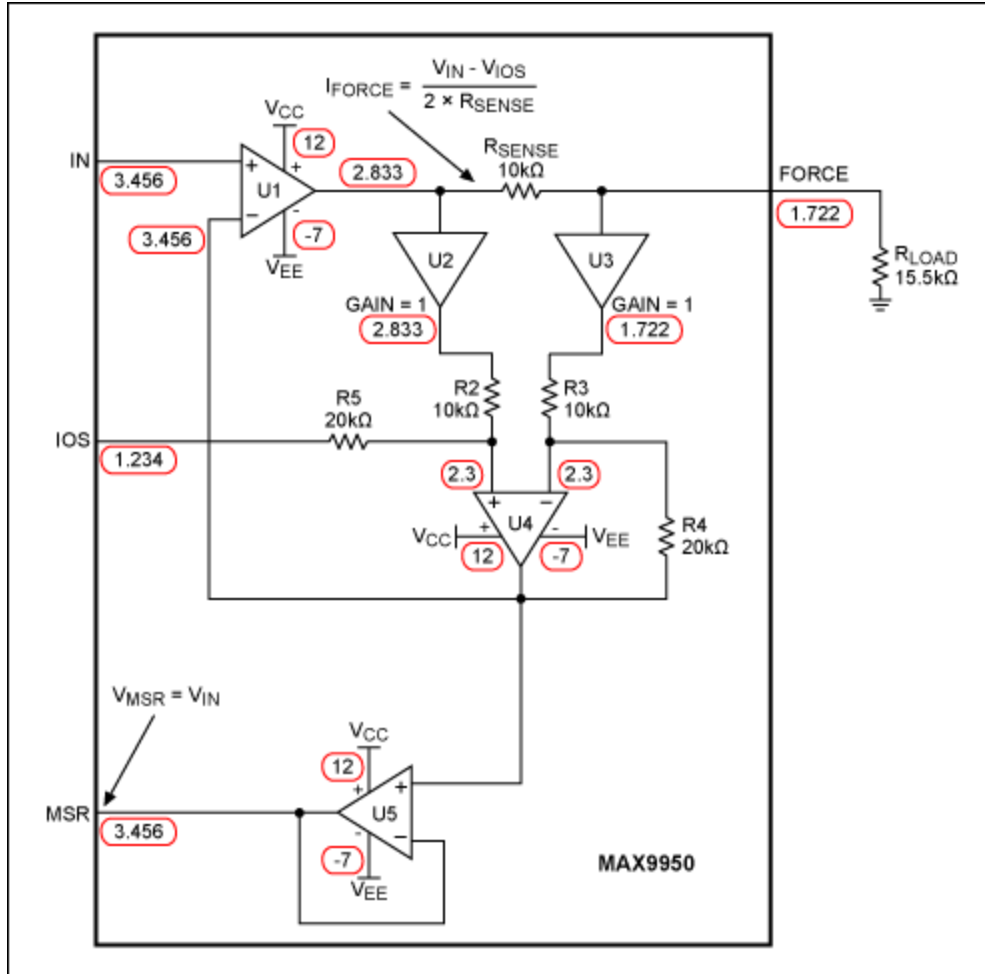
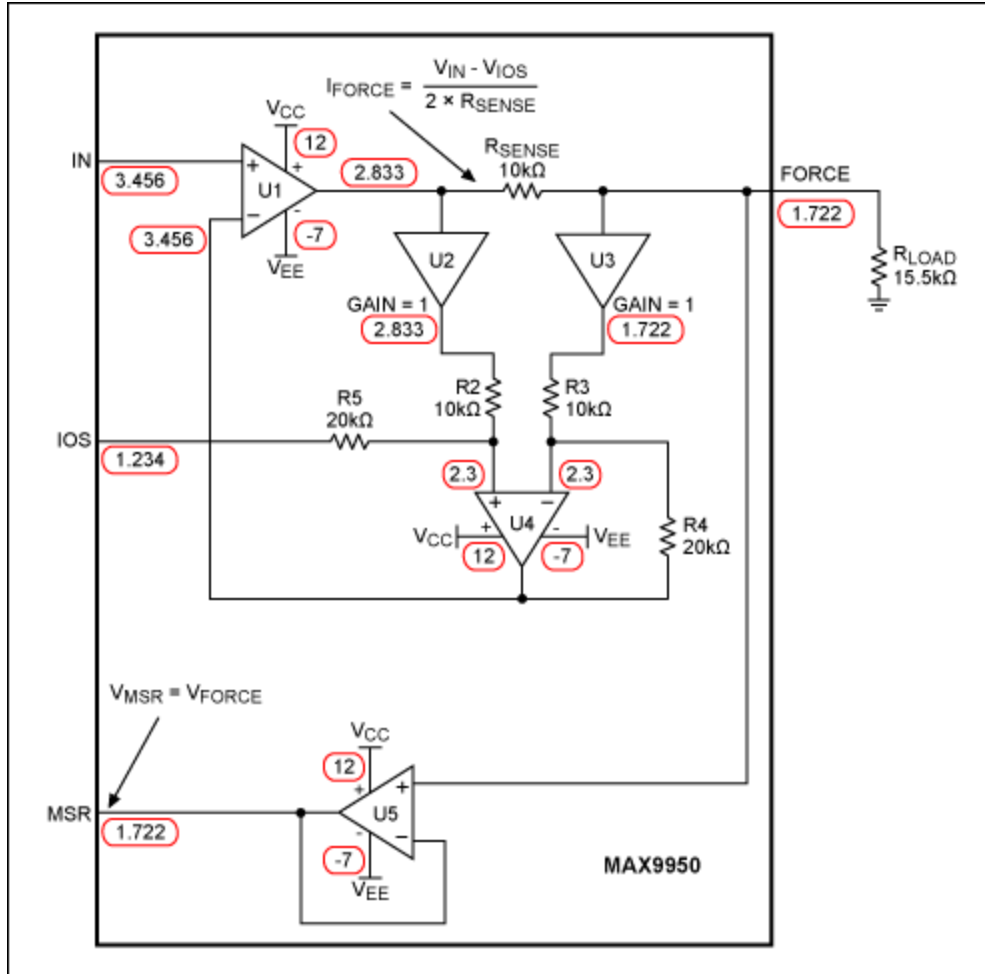

Figure 1. Equivalent block diagram of FIMI mode with sample setup.
Figure 2. Equivalent block diagram of FIMV mode with sample setup.
The following observations can be made from **Figure 1**.
2. Figure 1 shows an example of a setup where IN = 3.456V, IOS = 1.234V, and the load = 15.5kΩ. Using Equation 1 and R_SENSE = 10kΩ (±200μA range), we see that I_FORCE = 111.1μA.
The FIMV node is basically the same setup as the FIMI mode, but now the voltage at the output or the force pin is monitored with the MSR pin (Figure 2). The forced current is exactly the same as in Figure 1, so all calculations remain the same.